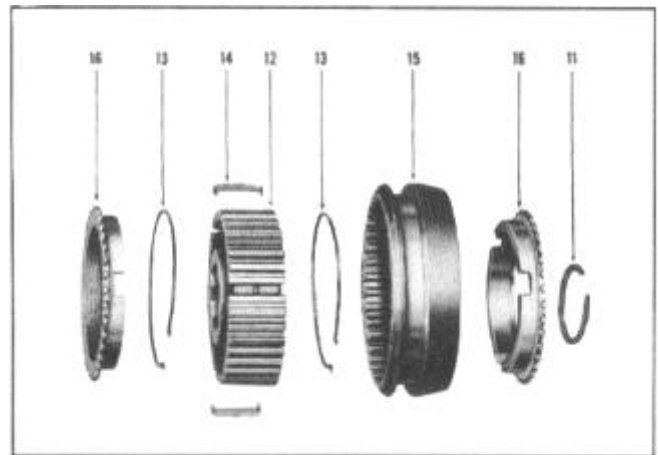

FIGURE 26
1. Place the 3 synchronizer shift plates in the shift sleeve hub. Install the two synchronizer springs so that one end of each spring rests in the same groove of shift plate with the free ends running in opposite directions, Figure 26.